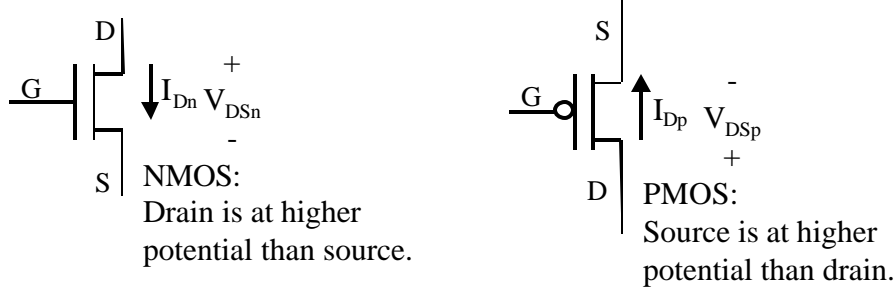
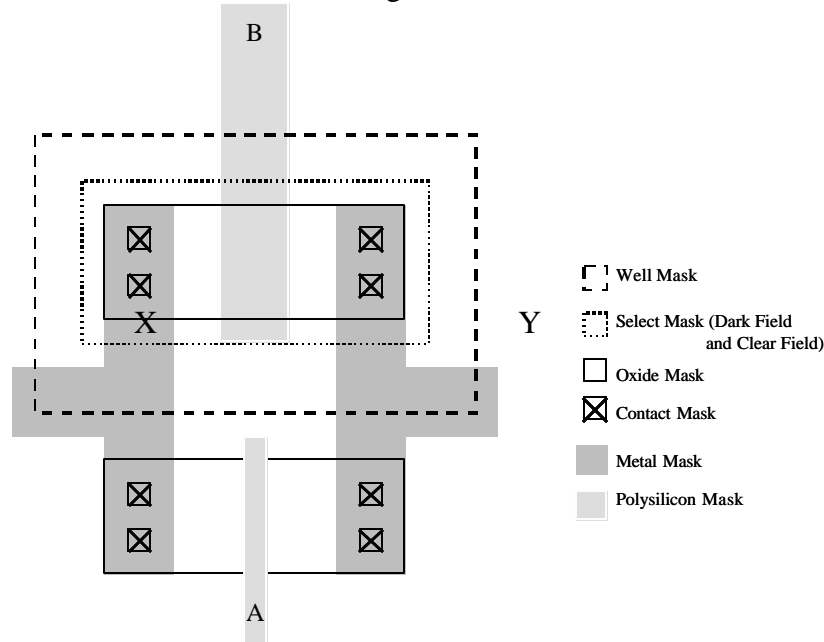
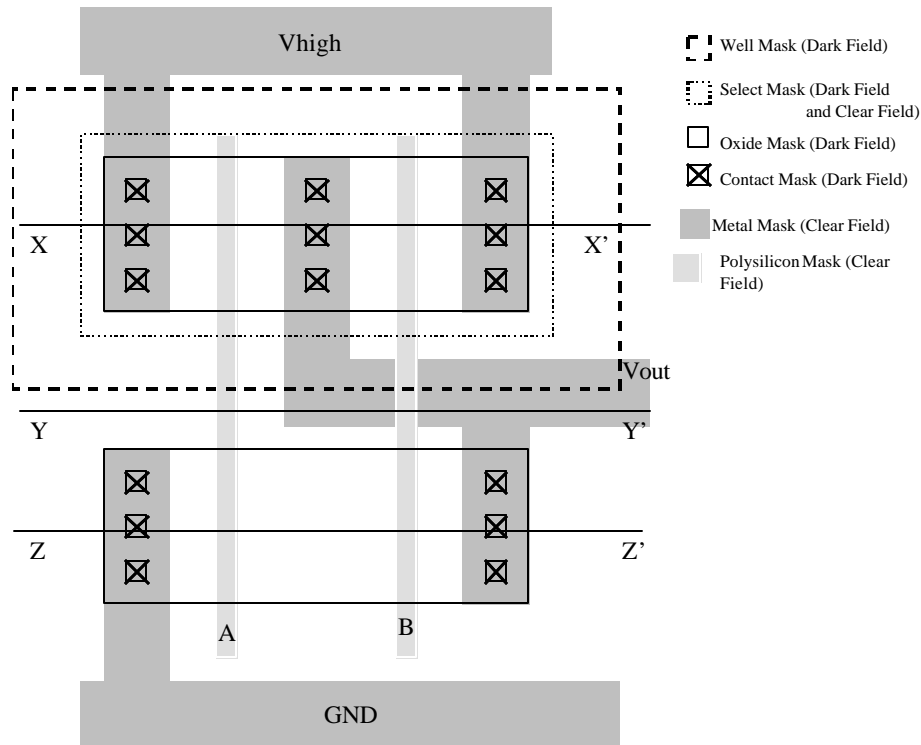

Figure 5.1
Figure 5.2
Figure 5.3
Suppose we process the layout shown in Figure 5.2. Note that the nodes (A and B and X and Y) have been identified on the layout.
- (a) Translate Figure 5.2 into a circuit using the circuit symbols shown in Figure 5.1.
- (b) Now suppose we apply the above processing steps to the layout in Figure 5.3. Several nodes have been identified on the layout, namely A, B, V_{high} (voltage corresponding to logic high), GND (ground), and V_{OUT} . Translate Figure 5.3 in terms of the circuit symbols shown in Figure 5.1. Hints: You might find it very helpful to draw rough sketches of the cross sections X-X', Y-Y', and Z-Z'.